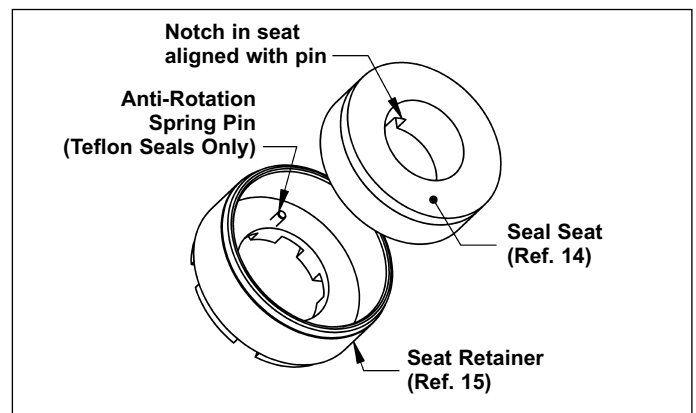

Figure 9 - Seal Seat and Retainer Assembly
- Press seal seat into the seal retainer (See Figure 9) using water as a lubricant. The white shiny ceramic face should be visible after pressing the seal into the seal retainer. It is recommended to use a cardboard washer or wood dowel when pushing the seal seat into the seal seat retainer. Any scratches, dirt, or fingerprints on the carbon ceramic faces will cause the seal to leak.
NOTE: When installing the seat for the Teflon seal, an anti-rotation pin must be installed into the seat retainer. The anti-rotation pin (Ref. No 20) is a small spring pin which must be installed into the seat retainer in the small hole. About 1/8" to 3/16" of the pin should be exposed inside of the seat retainer (Figure 9). The seal seat is then installed into the seat retainer.